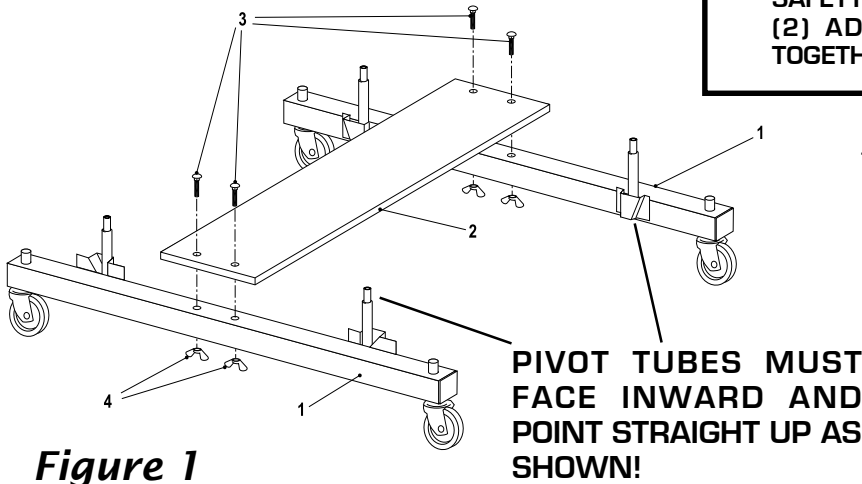

Figure 1
1. Attach wood bottom board (#2) to caster rails (#1) as shown in Figure 1. Turn caster rail as shown with pivot tubes toward inside, and attach tube (#2) with four carriage bolts (#3) and four wing nuts (#4). Tighten wing nuts securely.